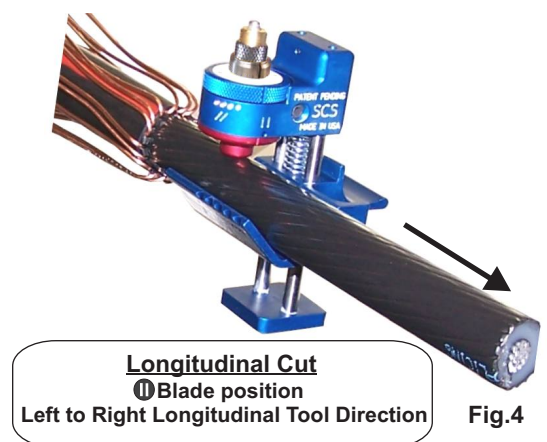

Fig.4
**4. Longitudinal score cuts: (Fig.4)** If preferred, the tool will allow for longitudinal score cuts as an option. After finishing the ring cut in step 2, proceed to the longitudinal cuts by rotating the blade positioning knob to the longitudinal tracking position. || Carefully pull the tool down the full length of the cable scoring it to the cable end. Position the tool back on the cable at the ring cut and create the desired amount of score cuts down the length of the semi-con.